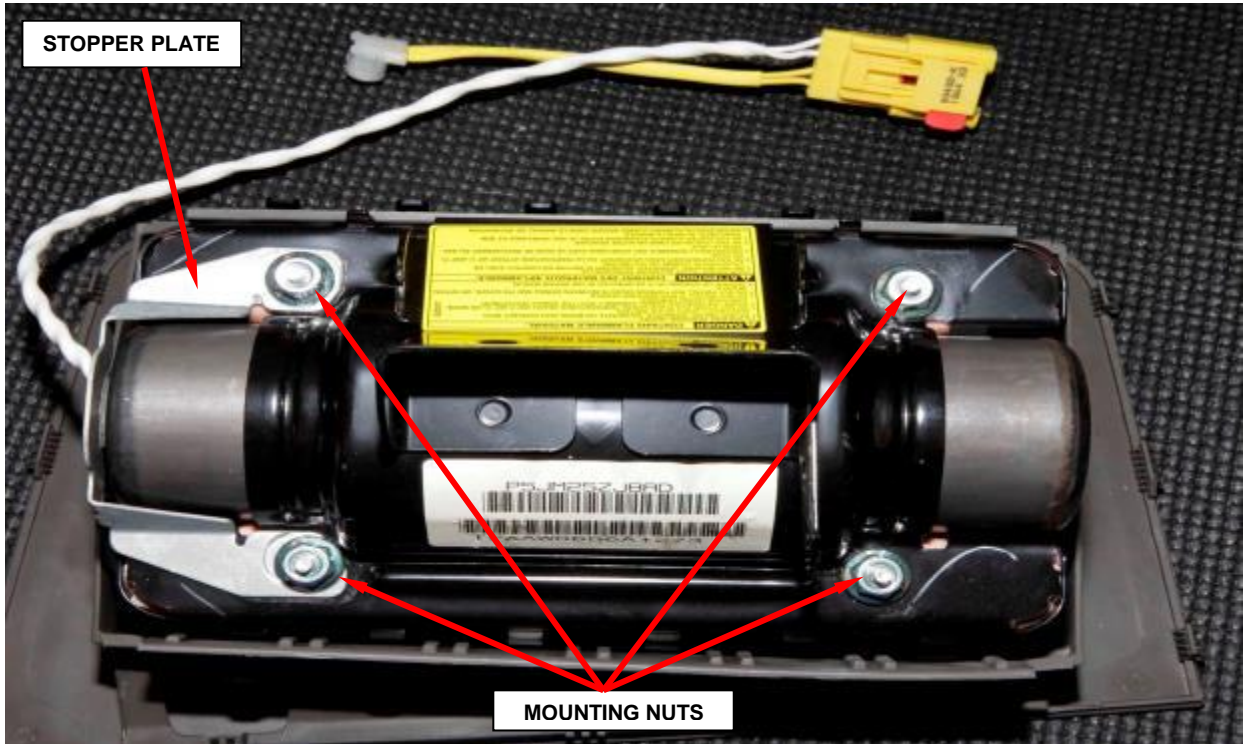

Figure 122 – Mounting Nuts and Stopper Plate
e. Remove and discard the four mounting nuts and stopper plate from the passenger airbag module (Figure 122).